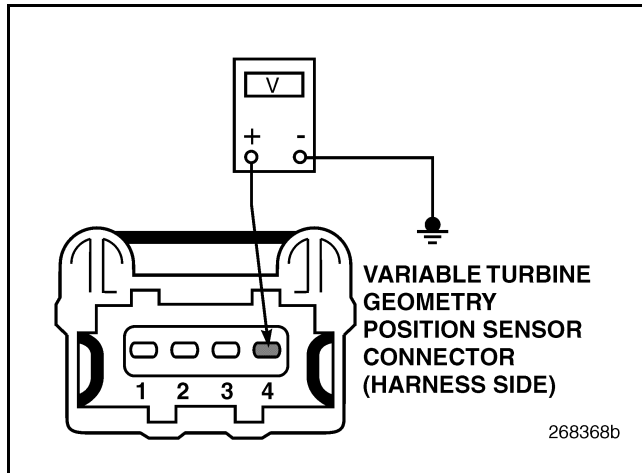

Figure 496
5. Measure the voltage between VTG Position Sensor harness connector pin 4 (ground line) and a good ground (see Figure 496).